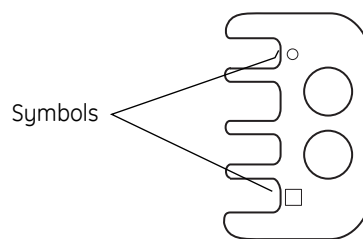

Figure 7 Locking Bar
- Remove the support leg from the three sumps and unscrew the top sump as shown to access the prefilter element. The support leg functions as a wrench to loosen the sump, Figure 7.